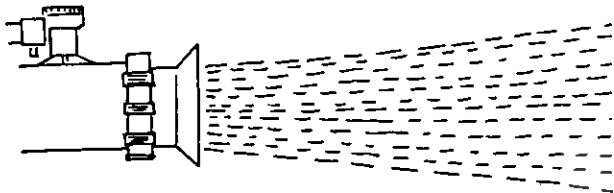

Figure 12
- Loosen collar nut and pull collar forward to obtain a straight stream as shown in figure 12.